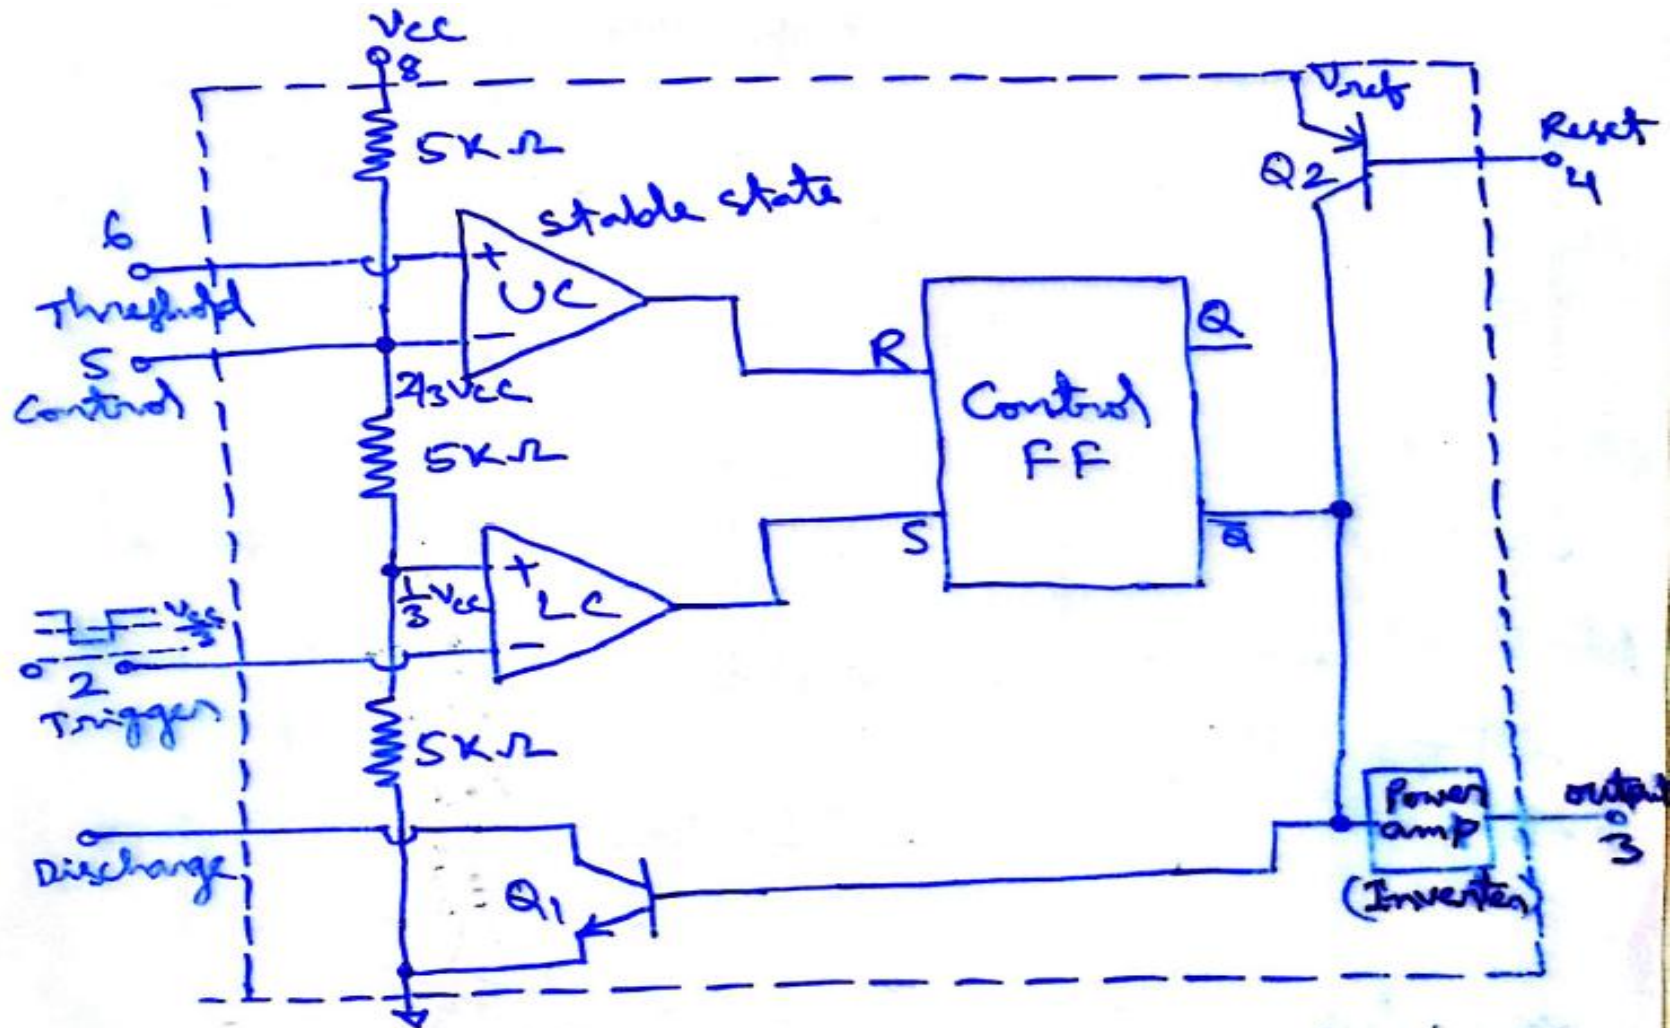

Fig 8.2 Functional diagram of 555 timer
- Figure 8.2 gives the functional diagram for 555 IC timer.
- Referring to Figure 8.2, 3 $5K\Omega$ internal resistors act as voltage divider, providing bias voltage of $\frac{2}{3} V_{cc}$ to the upper comparator (UC), and $\frac{1}{3} V_{cc}$ to the lower comparator (LC) where V_{cc} is the supply voltage.
- In the stand by(stable) state, the output \overline{Q} of control flip-flop(FF) is high.